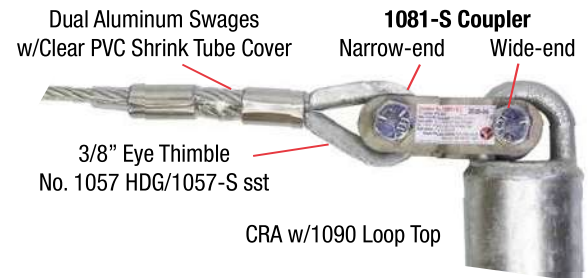

Fig.3 Field Swage
- 1) Shown at Fig.3,4,5, bolt coupler No.1081-S wide end to the loop top or 4-Way. Bolt coupler narrow end through the 3/8" eye thimble and tighten lock nuts. Insert 4 ea No. 1050-SM O-Rings onto cable as shown at Fig.3.
- 2) With cable clamp nuts very loose, attach 3 clamps onto the cable end and feed the cable live side through the top side of the eye thimble as shown at Fig.3.